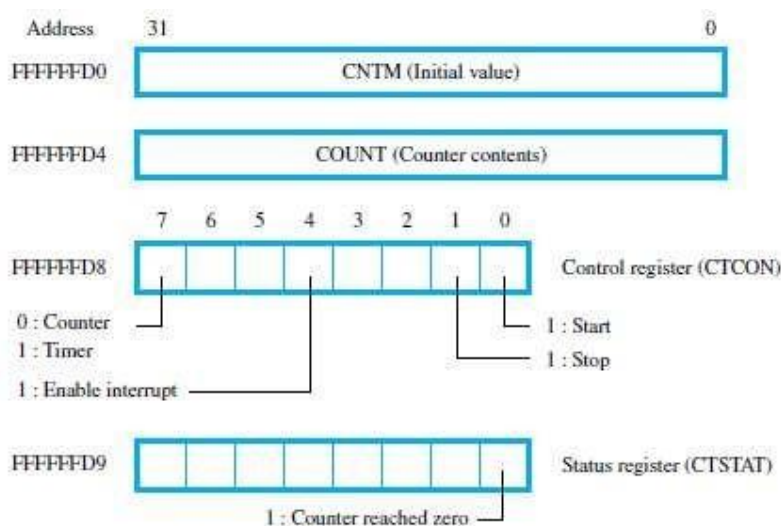

Figure 10.9 Counter/Timer registers.
- **Counter/Timer Register (CNTM)** can be loaded with an initial value (Figure 10.9).